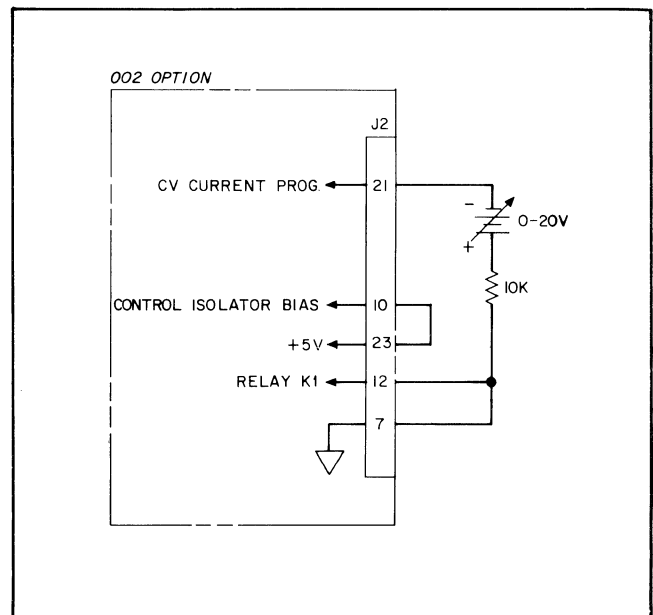

Figure A-10. Troubleshooting Current Programming of CV Mode
- b. Check $+5$ V supply and proceed to the test set-up shown in Figure A-10 and/or A-11.